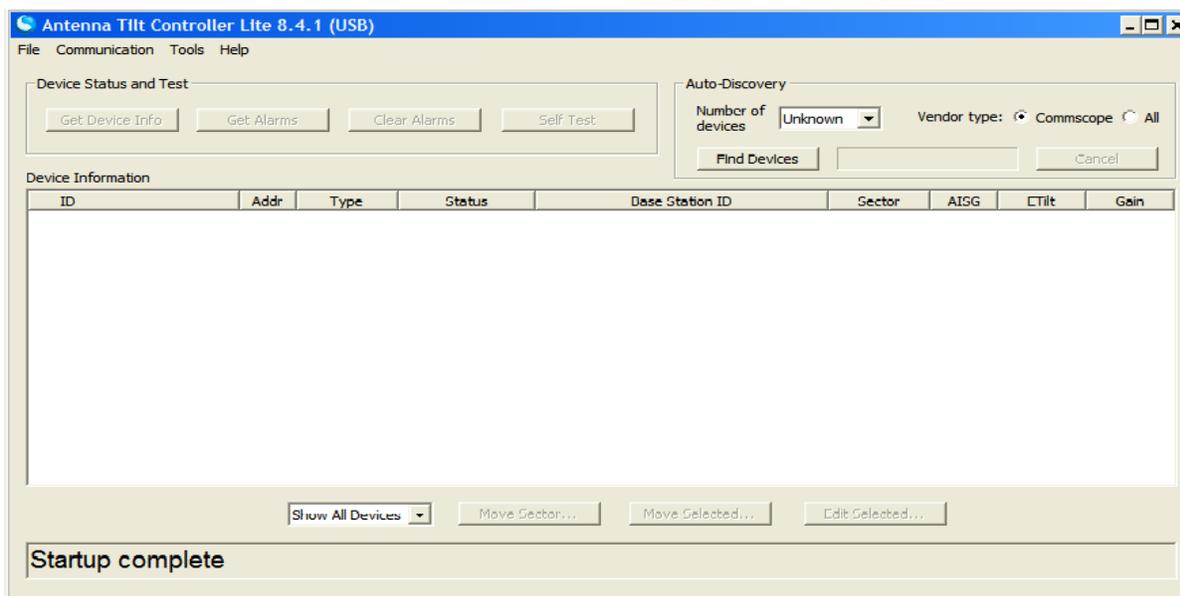

Figure 2-9. ATC Lite Program Main Screen.
3. The controller program will open to its main screen (Figure 2-9).